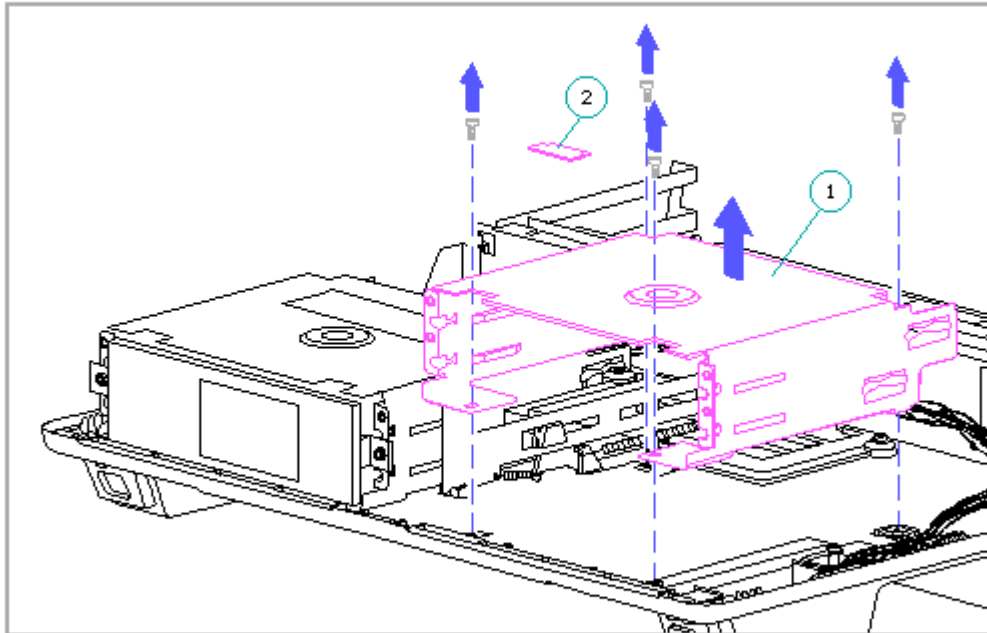

Figure 9-32. Removing the Drive Cage and the Drive Cage Spacer
3. Remove the four screws that attach the drive cage [1] to the top cover (Figure 9-32).
4. Remove the drive cage and the drive cage spacer [2] (Figure 9-32).